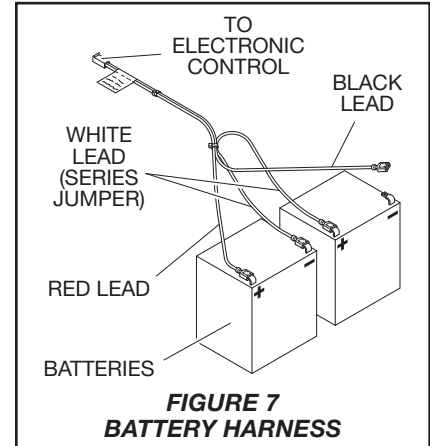

FIGURE 7
Step 3. Connect the batteries using the provided harness per Figure 7. Leave one of the connections unconnected as shown until directed otherwise.